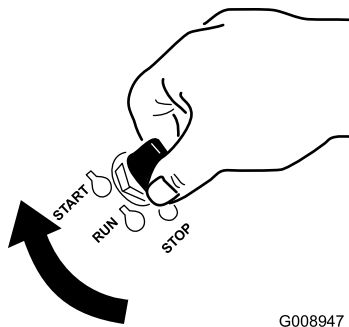

Figure 17
- Turn the ignition key to the Start position (Figure 17). When the engine starts, release the key.